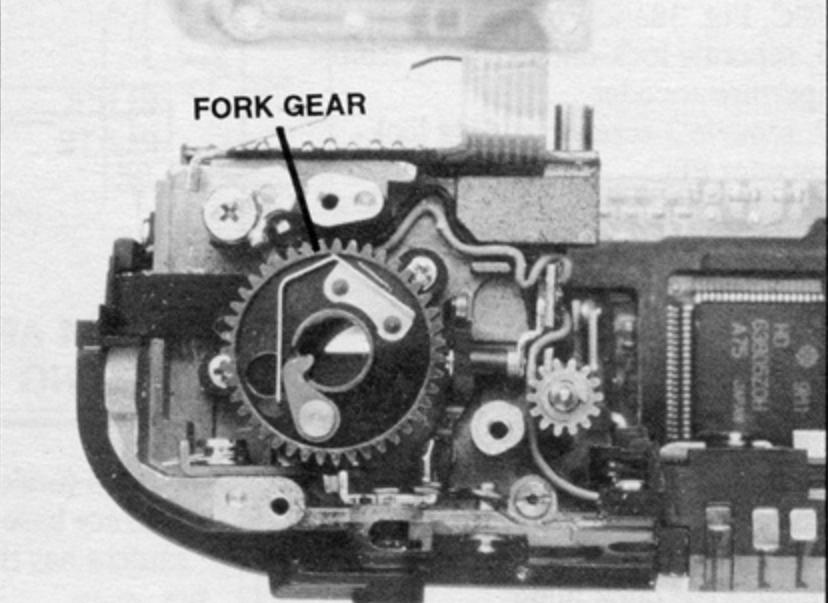

FIG. 42 TOP VIEW, REWIND BASE PLATE REMOVED
8. lift out fork gear, Fig. 42
1. Seat the fork gear, Fig. 42 (no timing).